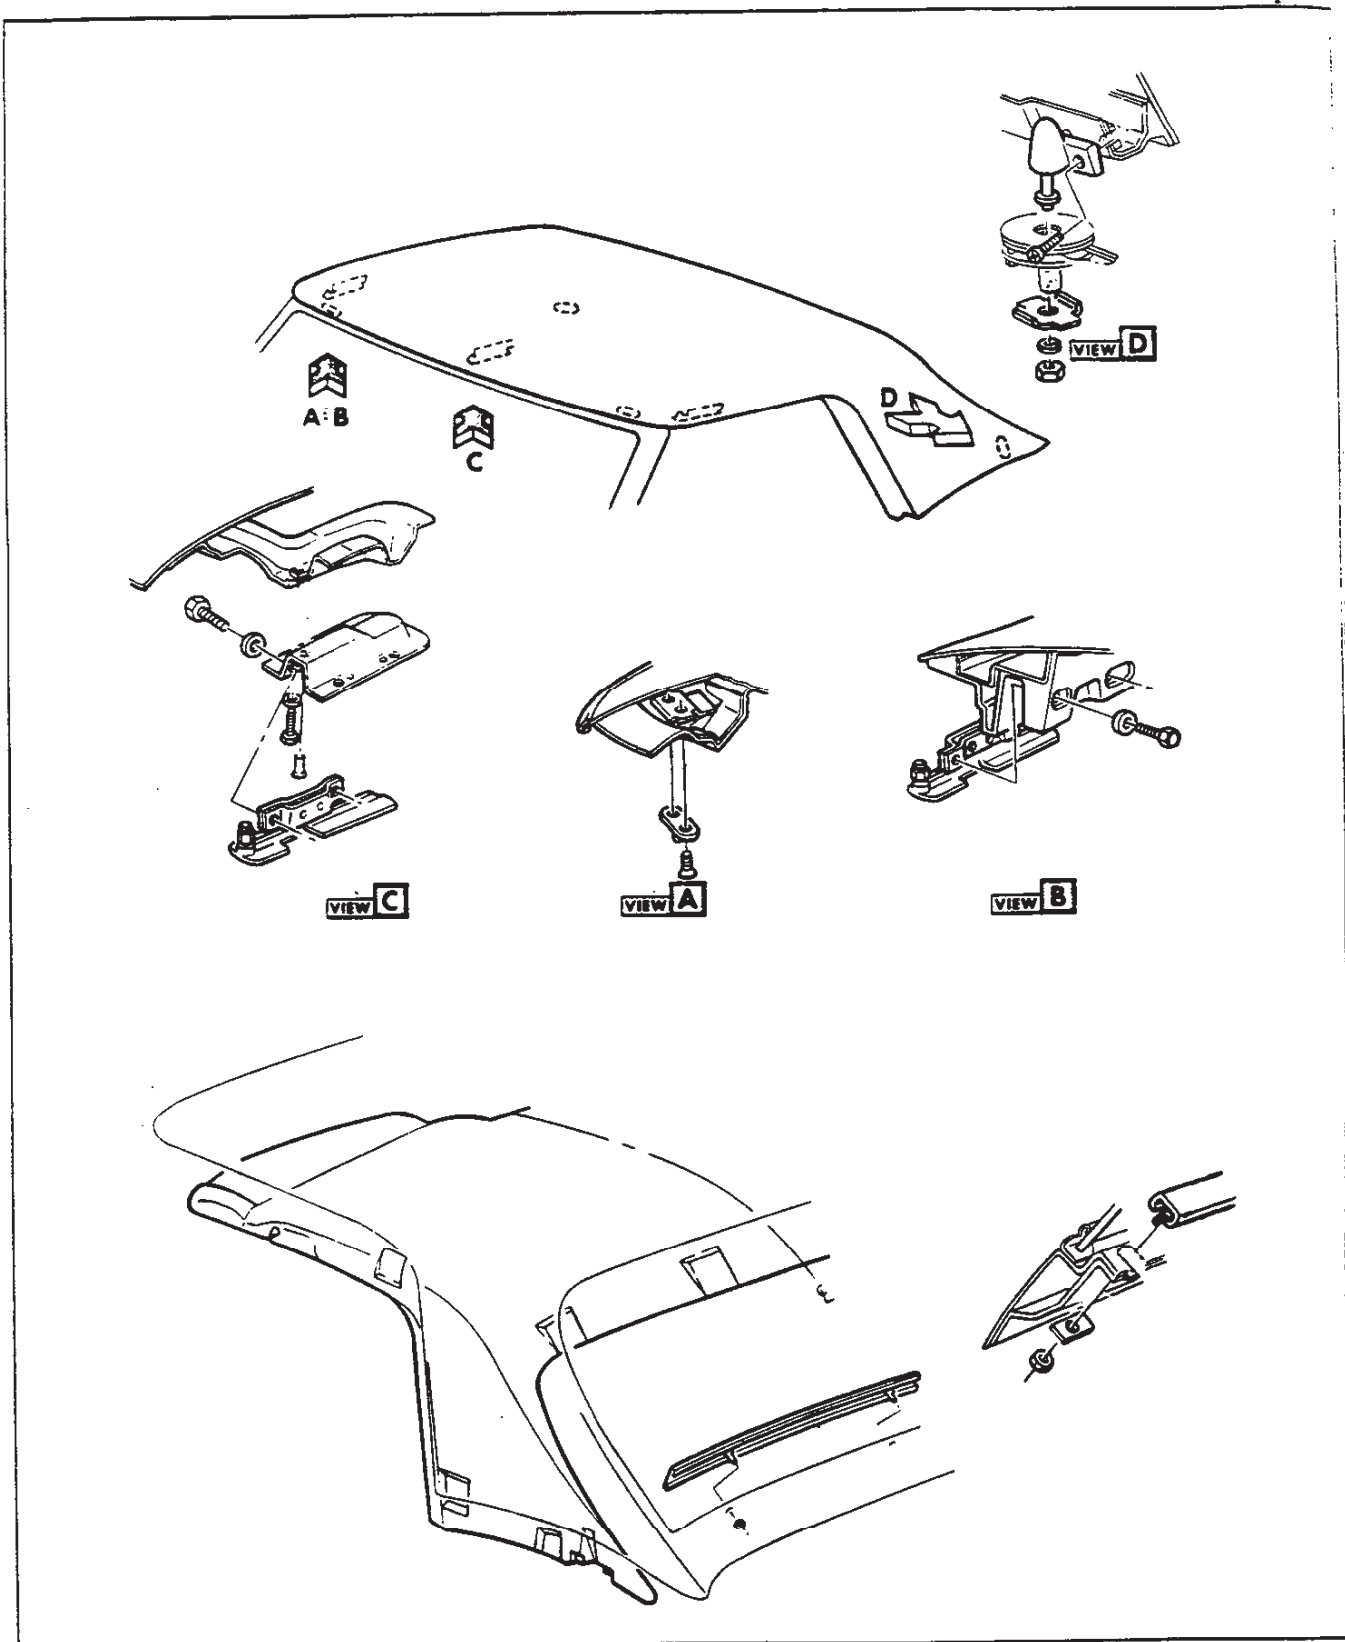

Fig. 66—Top Attachments and Headlining (Convertible Hardtop)
Figure 66 illustrates location and installation of guides and lock mechanisms. With headlining removed as outlined in this section, to adjust left and right hand locks fore and aft, mark original position, loosen two (2) mounting bolts, and move in desired direction. Make certain that lock is engaged in serrations before tightening mounting screws.